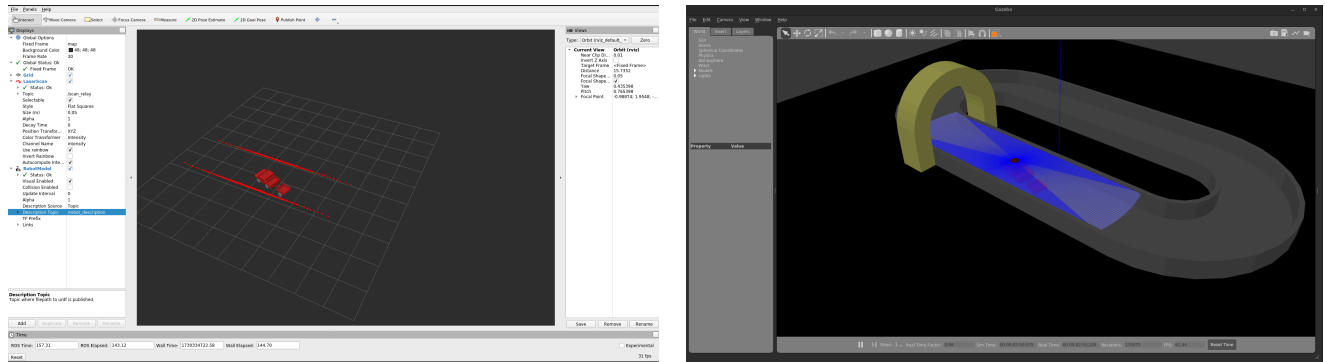
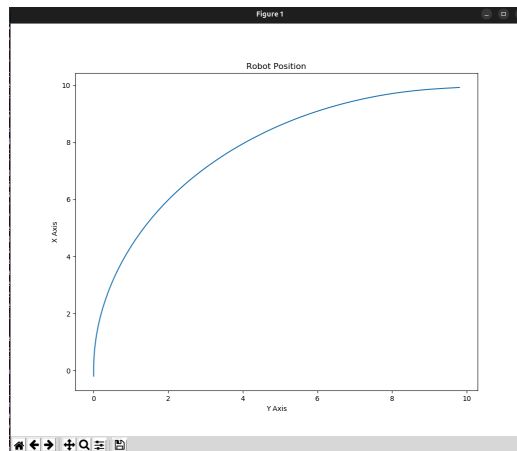

Figure 1: LiDAR Sensor Data Points in RVIZ
Figure 2: Robot Pose Plot in Autonomous Model
Figure 1 below shows the visualization of LiDAR sensor data points in RVIZ (left) collected by the robot in the competition gazebo world (right). This view helped us verify that the LiDAR was correctly configured and functioning. Figure 2 represents the pose plot obtained through the subscription method in autonomous mode, showing robot's path toward the target location.
**Autonomous Mode:** The proportional controller worked effectively in guiding the robot from point A to point B. The robot's pose plot (Figure 2) illustrates a continuous trajectory toward the desired location, demonstrating the controller's success. Due to the Gazebo Physics engine and flaws within the robot design, minor drift was observed, but overall, the controller provided stable and reliable autonomous movement.